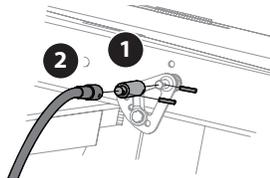

Figure 6
- Connect shaft adapter (711-07101) to discharge shaft assembly (680-01596) with a roll pin (715-04137). See (1) in Figure 6.
- Connect flex shaft assembly (611-05206) to shaft adapter (711-07101) and secure with a roll pin (715-04137). See (2) in Figure 6.